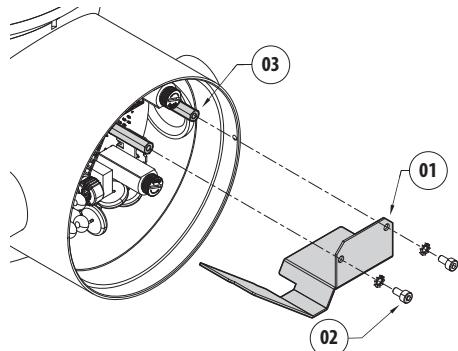
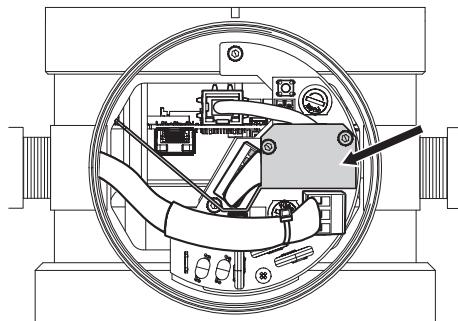

Fig. 17
Fig. 18
Fasten the barrier (01) using the specific screws and washers (02) to the prepared spacers (03) (Fig. 17, page 102 and Fig. 18, page 102).